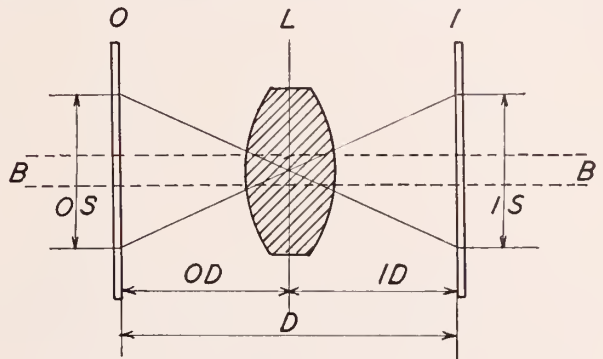

Fig. 2
2. Mount square ruled ground glass plate, O, in front of test lens, L, Fig. 2, and identical square ruled ground glass plate, I, in rear of L. Use unit magnification by focussing selected objective, OS, to become image IS on I. When ruled pattern on